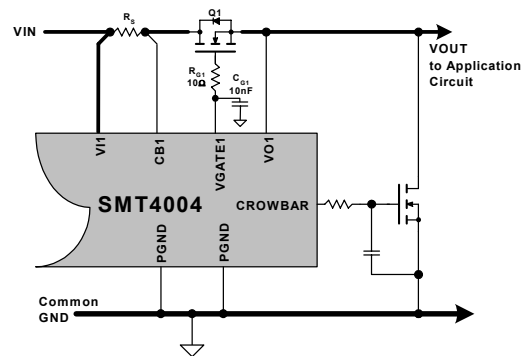

Figure 15 - Example implementation of the ‘Early Drive Function.’
2. The CROWBAR pin is normally configured to output a short positive pulse to trigger an SCR. Optionally it can be configured as a normally active high output during the power-on phase prior to tracking. Configured as such, it can be used to drive the gate of an N-channel MOSFET to actively discharge any ‘early voltages.’ Once tracking is initiated, the CROWBAR output goes low allowing the card-side voltages to turn-on. Refer to Figure 15 for a schematic illustration.
The CROWBAR pin is designed to deliver an active high pulse to an external SCR to shutdown the card-side voltages as quickly as possible. A CROWBAR pulse can be triggered by one of seven inputs: a QT-CB fault, an IRQ#, a TRKR_IRQ# and/or assertion of the FORCE_SD input. These trigger sources are optional and any combination can be selected. Note: Because an over-current condition is potentially catastrophic, each manager has a unique source input to the CROWBAR logic even though they are included in the trigger sources for an IRQ#. This allows less harmful fault triggers to be used as inputs for the IRQ#, without generating a CROWBAR. There is also an option to change the CROWBAR pin output from an SCR pulse to a voltage level to discharge Card-side early voltages prior to tracking (see Figure 15).